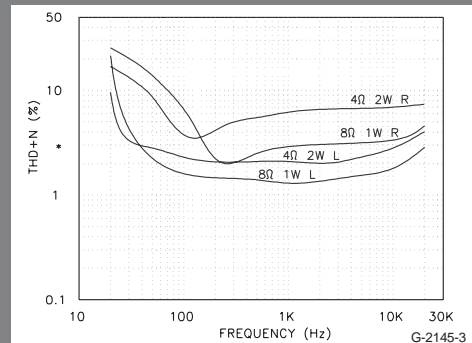

FIGURE 3: THD+N versus frequency.
The THD+N versus frequency for 2W into 4Ω and 1W into 8Ω is shown in Fig. 3. Here you can see the high levels of distortion, especially at low frequencies (LF). The right channel produces noticeably more distortion than the left, but neither channel quite gets down to the 1% maximum listed in the specifications.